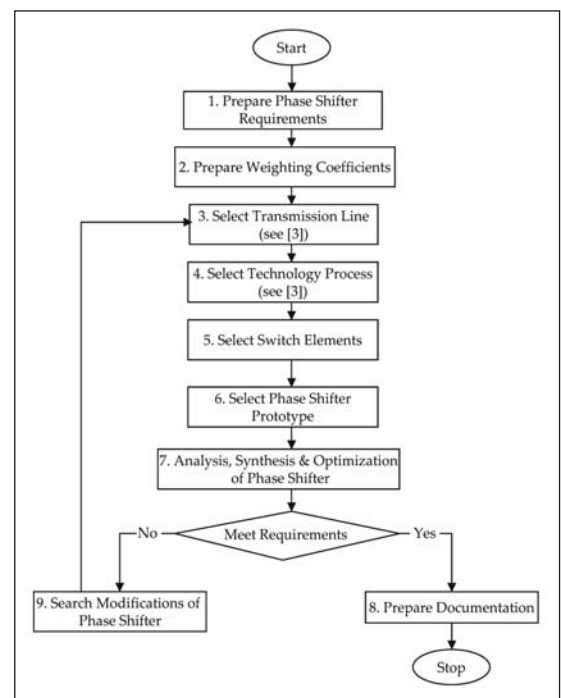

Figure 1 · Flow chart for the design of printed phase shifters.
Figure 1 illustrates the design flow of printed phase shifters. Definition of system
(VSWR) or return loss (RL), harmonics level. For all requirements, a designer has to choose consecutive integer values of weighting coefficients k_i corresponding to each parameter (step 2 of design flow in Fig. 1), starting with $k = 1$ for the most important parameter [7 - 9]. The maximum value of k can be less than or equal to the number of parameters, depending on whether some parameters are considered to have the same importance or not. Selection of a phase shifter prototype (step 6 of design flow Fig. 1) depends on all requirements, selected transmission line (step 3), technology process (step 4), and must take into account the corresponding weighting coefficients. The final choice of a phase shifter network and control element will depend on the required bandwidth, insertion loss, switching speed, total phase variance, power handling, accuracy and resolution, input/output matching, harmonics level.
The design strategy of printed transmission lines was described in [7]. The type of optimal transmission line depends on many different factors including the technology process. According to the phase shifter design flow (Fig. 1), a phase shifter prototype is selected (step 6) after the selection of the transmission line (step 3), technology process (step 4), and switch elements (step 5). The switching elements in digital phase shifters are PIN diodes and Field Effect Transistors (FET). The high-speed PIN diodes change resistance values from approximately 10,000 ohm to less than 1 ohm. Switching is achieved by changing the bias point of a PIN-diode from forward to reverse direction and vice versa. These PIN diodes are commonly utilized in high-speed, current controlled phase shifters. In MMIC design the switching elements are often realized with FETs. GaAs phase shifters are typically very small, on the order of a few square millimeters, which makes them good candidates for thin-film semiconductor manufacturing processes. GaAs, on the other hand, is one of the most expensive semiconductors.
The switched-line phase shifter includes phase elements, switch elements (PIN diodes), and control network. The selection of switch elements (step 5, Fig. 1) depends on the phase shifter requirements. Shunt diode switches are commonly used for systems with high isolation and where handling of higher power is necessary. The isolation of the off-path with shunt PIN diode is approximately 6 dB larger than in the configuration with series switches. Series diode switches are commonly used in broadband circuits. The series-shunt configuration provides greater isolation than both the series and the shunt versions, but requires a bias current from both positive and negative sources that would significantly increase the DC power dissipation.